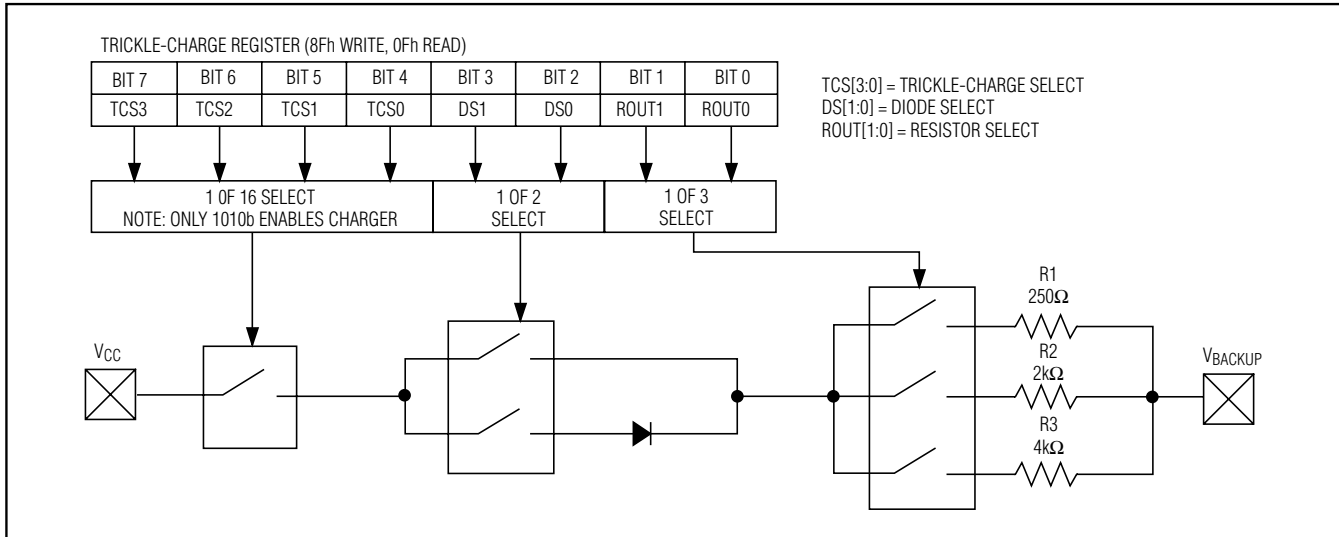

Figure 8. DS1390–DS1394 Programmable Trickle Charger
The simplified schematic in Figure 8 shows the basic components of the trickle charger. The trickle-charge select (TCS) bits (bits 4 to 7) control the selection of the trickle charger. To prevent accidental enabling, only a pattern on 1010 enables the trickle charger. All other patterns disable the trickle charger. The trickle charger is disabled when power is first applied. The diode-select (DS) bits (bits 2 and 3) select whether or not a diode is connected between VCC and VBACKUP. If DS is 01, no diode is selected or if DS is 10, a diode is selected. The ROUT bits (bits 0 and 1) select the value of the resistor connected between VCC and VBACKUP. Table 5 shows the resistor selected by the resistor-select (ROUT) bits and the diode selected by the diode-select (DS) bits.